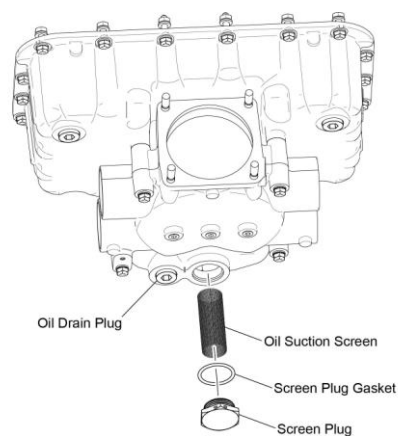

Figure 2
- (1) Put a suitable collection container with a minimum 15-quart (14-liter) capacity under the drain plug of the oil sump (Figure 2).
- (2) Remove and discard the safety wire or safety cable from the oil drain plug.
- (3) Remove the oil drain plug from the oil sump.
- (4) Connect an oil drain hose if available.
- (5) For routine oil changes, collect an oil sample per the laboratory vendor's sample oil collection procedure.
- (6) Let the remainder of the oil drain from the engine into the collection container.
NOTICE: On the IO-390-C (Figure 2) engines there is an oil suction screen in the oil sump.
A. Remove and discard the safety wire/cable from the oil drain plug and the screen plug on the oil sump (Figure 2).
(1) Examine the oil suction screen for distortion, deformation or openings in the mesh and/or metallic particles, shavings, or flakes (which can be an indication of possible excessive internal wear on the engine).
(2) Examine any material trapped in the oil suction screen. Examine the condition of the oil and particles on the oil suction screen. Look for shining, metallic residue which is an indication of a high concentration of metal.